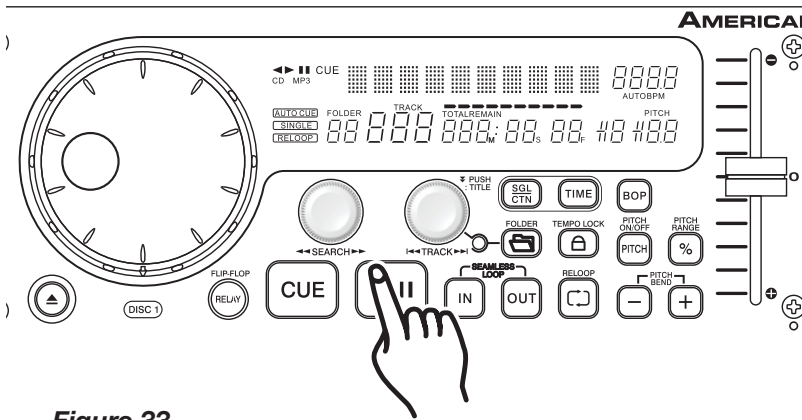

Figure 33
- 1) Press the **PLAY/PAUSE BUTTON (18)** so music is playing (Figure 33).